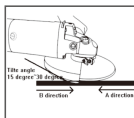

Fig7
2.Generally speaking, please keep the grinding and cutting part of the wheel and disc in the scope of 15 to 30 degree with the surface of processing object. (Fig 7)